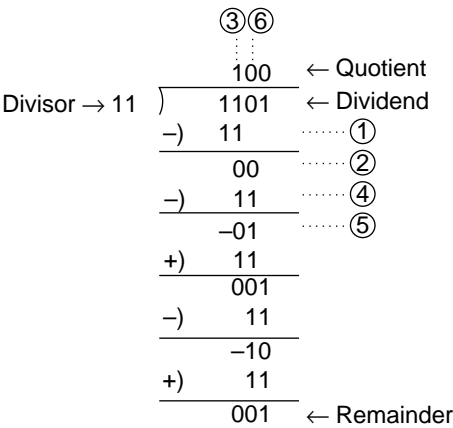

Figure 4.39 Division
- Binary division finds the quotient and remainder by repeatedly subtracting. In figure 4.39, H'0D is divided by H'03 as an example of the division operation.
- iii. The divisor is subtracted from ER2. When the result of subtraction is positive, the LSB of ER0 is set (1 to 2 to 3 in figure 4.39). When the results of subtraction is negative, the LSB of ER0 is cleared and the divisor is added to the results of subtraction, returning it to the state prior to subtraction. ((4 to (5) to (6) in figure 4.39).